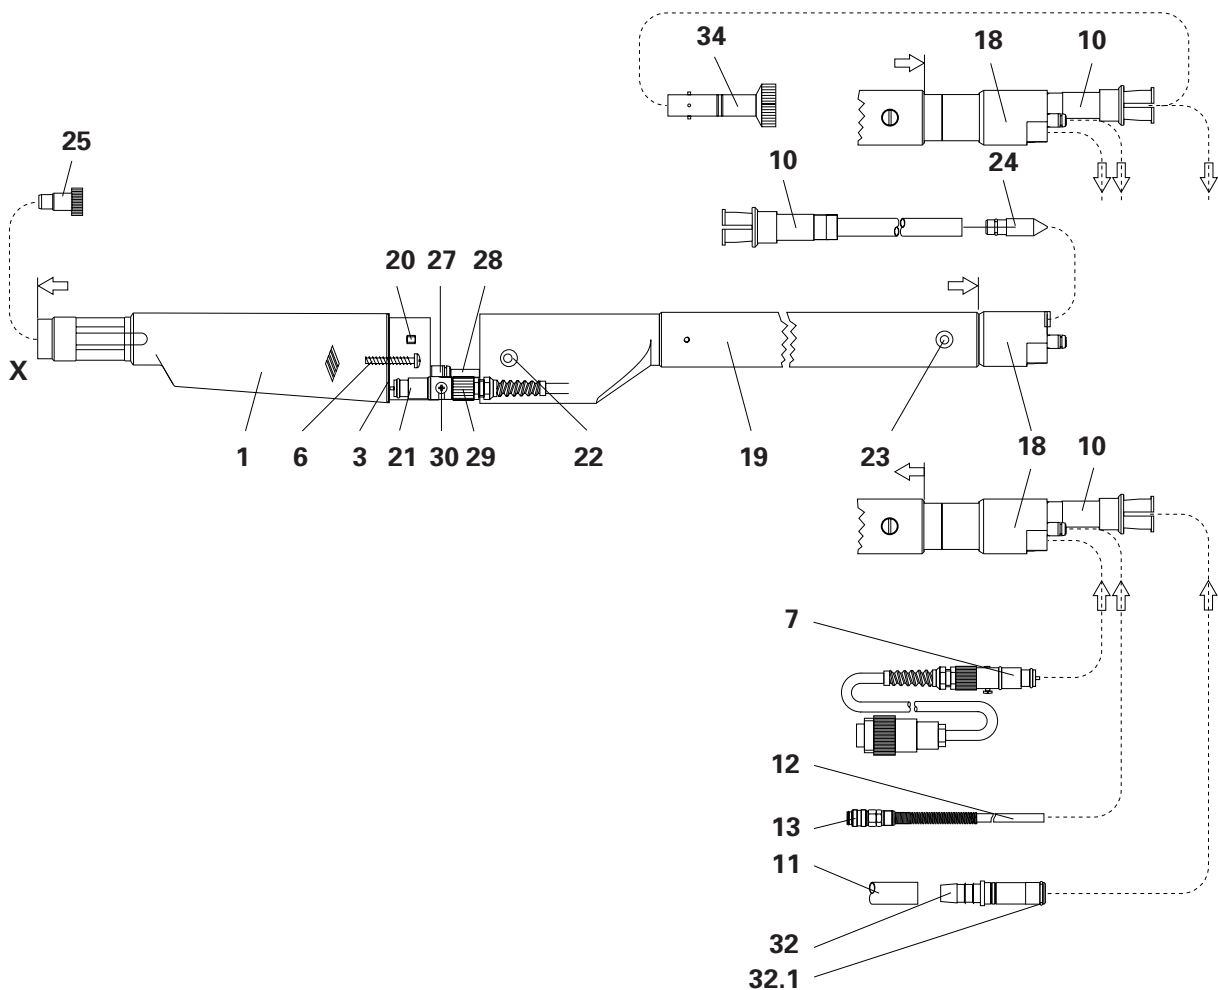

Figure 18.
Place the ejector (25 - Fig. 18, page 19) in the opening **X** and push the powder tube back approximately 4-5 mm (the powder tube is flexible enough) then unscrew the tube. Be sure to use the special extractor (34 - Order No. 365 270).
1. Remove the powder hose connection (32), gun cable (7), and rinsing air hose (12) from the gun.
4. Fit the ejector (25 - Fig. 18, page 19) into the powder tube and push the powder tube back about 5 mm. The end piece (18) can be slid these 5 mm along the support tube (19).
5. Remove the powder tube (10).
6. Push the gun (1) and supporting tube (19) together and replace screws (22 - two screws) and then screw (23) to fix the supporting tube.
7. Screw in the new powder tube (10) fitted with the guide plug (24). Remove the guide plug (24) when the tube is in place.
9. Fit the powder hose (11), gun cable (7), and rinsing air hose (12) on the gun.